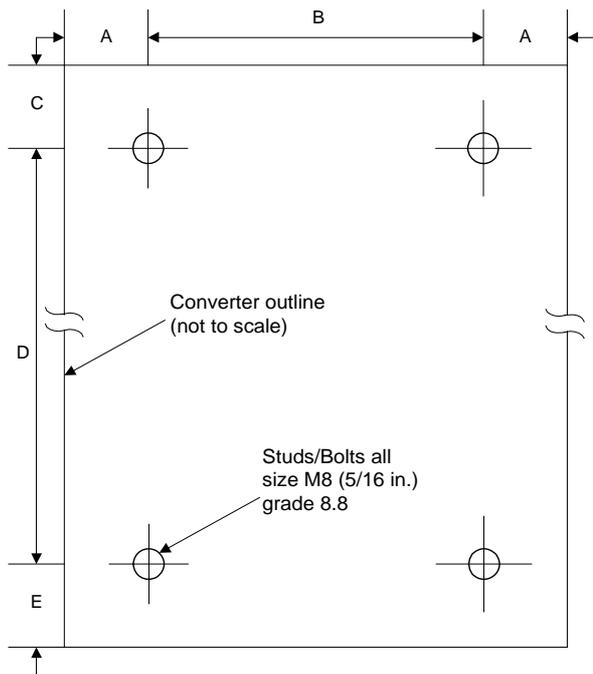

Figure 3-6 Bolt/stud locations for mounting the converter on a panel
1. The position of mounting studs/bolts for all converter frame sizes are shown in Figure 3-6 and Table 3-1. If “dirty air” ventilation is to be used with cabinet mounting, allow space for ducting cut-outs in the panel, above and below the converter. See step (2).